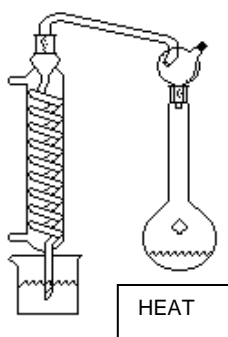

Fig. 1 (Set-up of Testing Apparatus)
4. Distill approximately 75 ml into the standard HCl, making sure that the tube from the condenser remains under the level of the standard HCl solution (see fig 1.)